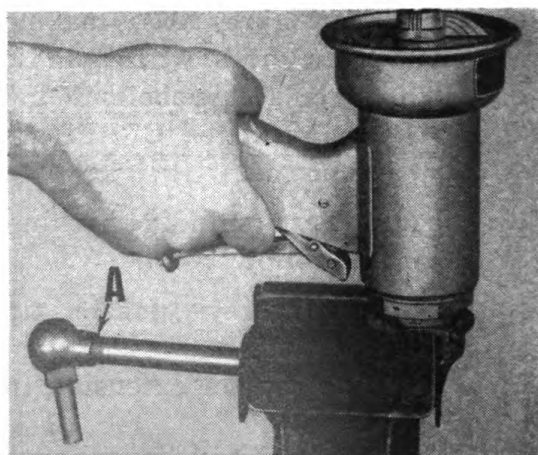

Figure 204
(a) Unscrew nozzle tip angle body at "A" Figure 204, and screw $\frac{1}{4}$ " pipe cap on extension in its place.
(2) Unscrew swivel retainer nut by holding nut in vise and turning meter (See Figure 204).